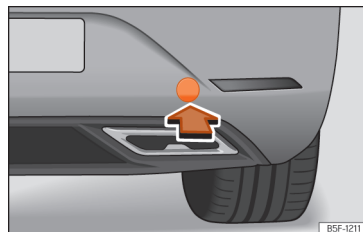

Fig. 214 Rear bumper on right: remove the lid.
The housing of the screw towing eye is on the right side of the rear bumper behind a lid »» Fig. 214.
- Press the lower side of the lid >>> Fig. 214 to unclip it.